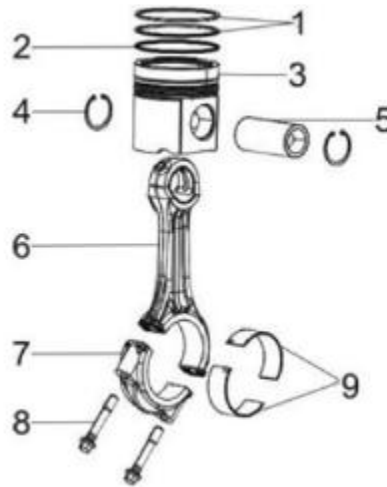

Figure 108.
2. Carefully clean the ring grooves of the piston (Figure 108, Item 3). Fit the piston rings (Figure 108, Items 1 & 2) with the special tool.